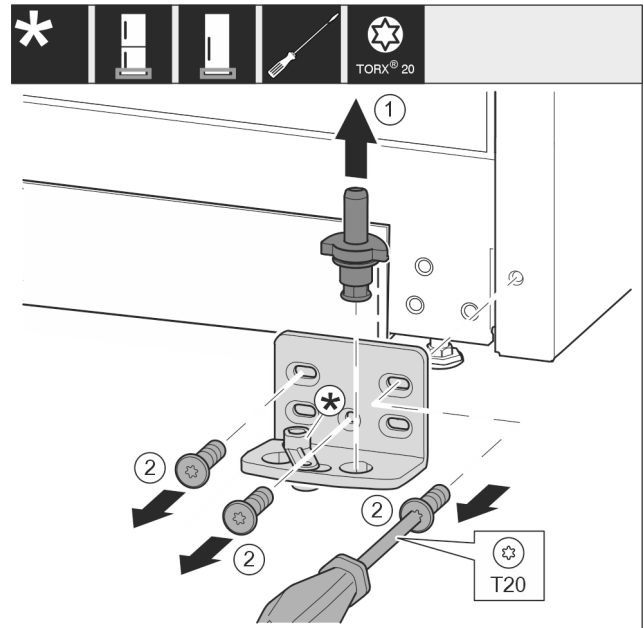

*Fig. 12*
- ▶ Remove the washer. *Fig. 12 (1)*
- ▶ Remove the screws with the T20 screwdriver. *Fig. 12 (2)*
- ▶ Remove the cover carefully. *Fig. 12 (3)*
- ▶ Screw the bearing bracket and the film rotated 180° firmly onto the other side. *Fig. 12 (4)*
- ▶ Attach the cover rotated 180° onto the other side. *Fig. 12 (5)*
- ▶ Push the washer in from the front. *Fig. 12 (6)*